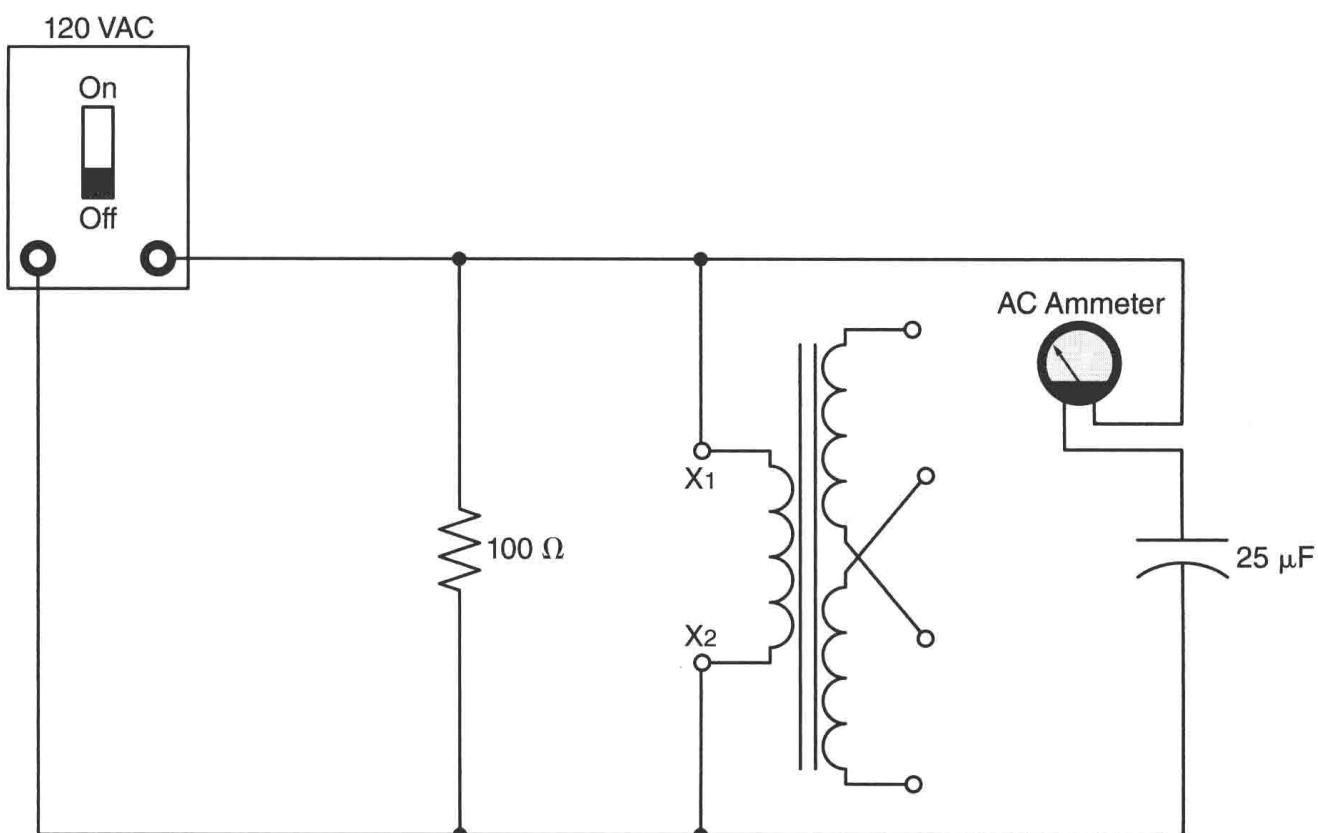

Figure 17-6 Measuring current through the capacitive branch.
11. Reconnect the ammeter to measure the current flow through the capacitive branch (Figure 17-6).